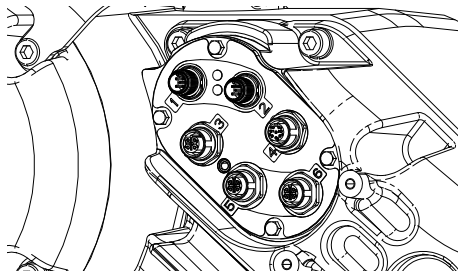

FIG. 40
- Loosen the cord grip (CG).
- Remove wires from Driver housing by pulling them through the cord grip (CG).
- Disconnect the cables connected to ports 1-6 on the side of the Driver (AB), shown in FIG. 40.